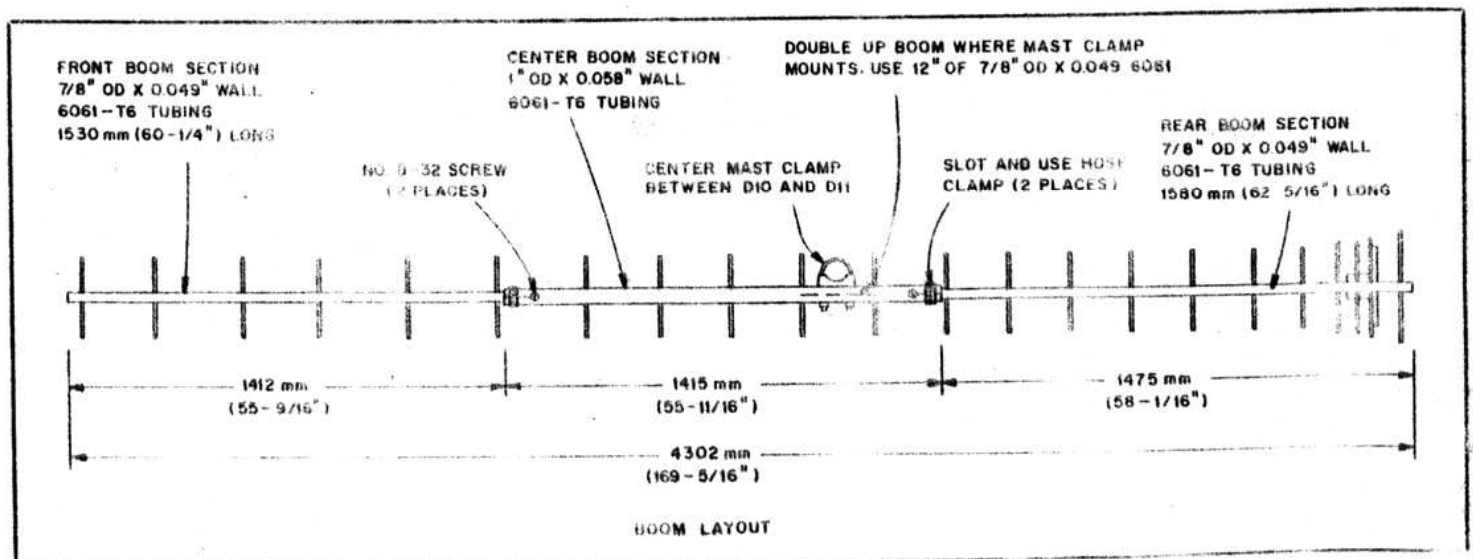

Fig 6—Boom construction information for the K1FO 22-element Yagi. Lengths are given in millimeters to allow precise duplication of the antenna. See text.
Fig 6 shows the boom layout. Round aluminum tubing of 7/8-inch and 1-inch outer diameter (OD) was chosen carefully to provide the highest possible boom strength, while maintaining low wind load
The boom materials shown in Fig 6 have been chosen for good strength versus weight. I recommend 0.049-inch-wall tubing for the 7/8-inch boom sections. Tubing with a 0.058-inch wall is suitable, but it is slightly heavier. The 1-inch center section should be 0.058-inch-wall tubing so that the end pieces telescope properly, with a minimum of slack. If a single mast clamp, mounted through the boom, is used, put a short piece of 7/8-inch tubing inside the center section where the mast clamp attaches. This doubles the wall thickness for extra strength. My array of 12 22-element Yagis has already survived 1/2-inch ice loading in combination with winds stronger than 40+ mi/h.